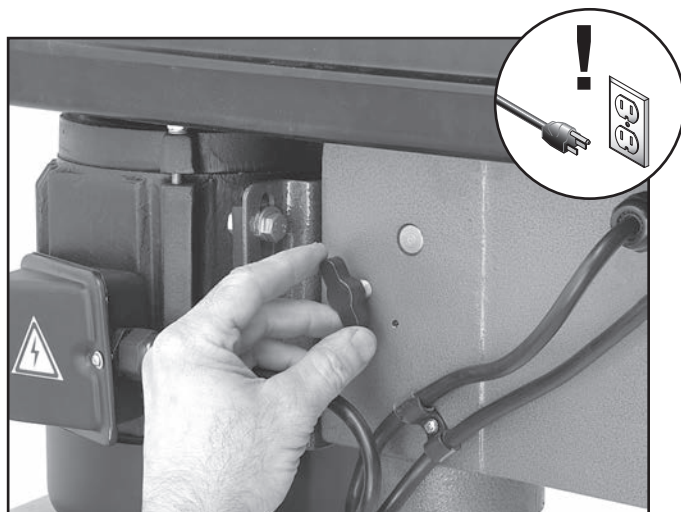

Figure 20. Loosening lock knob (both sides).
2. Loosen the belt tension lock knobs (**Figure 20**), on both sides of the headstock, so the motor is free to move.